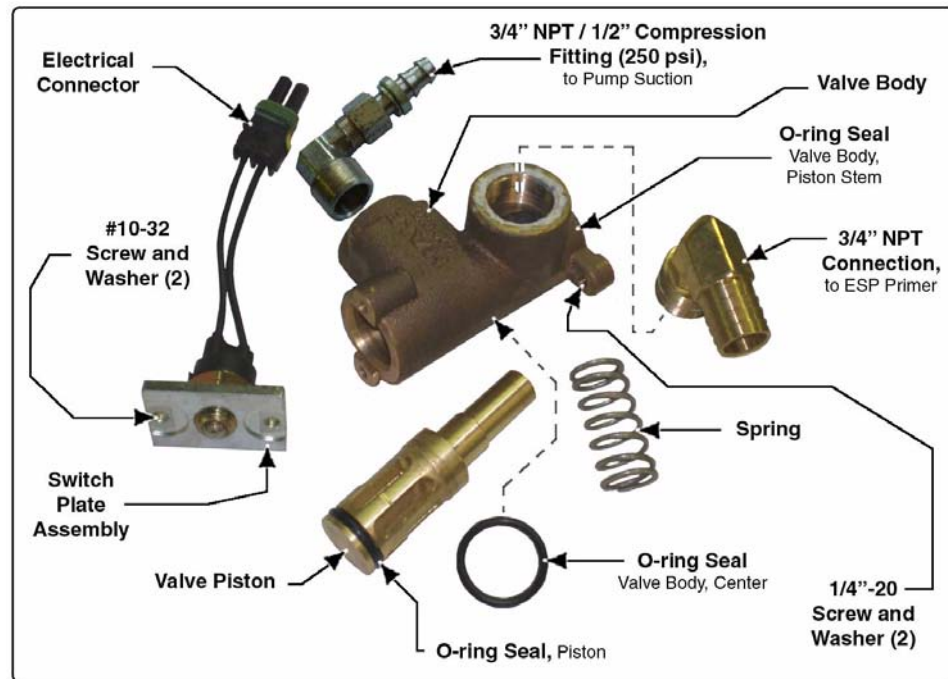

Figure 5-5: PVG Valve Parts Breakdown
A Hale PVG repair kit is available that contains, O-ring seals (3), and the electrical switch. Order Hale repair kit, p/n: 546-1420-00-0. (See Figure 5-5: "PVG Valve Parts Breakdown.")
8. Stabilize the unit (in a vise) and remove the two #10-32 screws and washers from the switch plate. (See Figure 5-5: "PVG Valve Parts Breakdown.")
11. Using an O-ring hook-type tool, reach into the valve body and remove the center valve body O-ring and the piston stem O-ring. Also remove the O-ring from the piston and discard all. (See Figure 5-5: "PVG Valve Parts Breakdown" on page 43.)